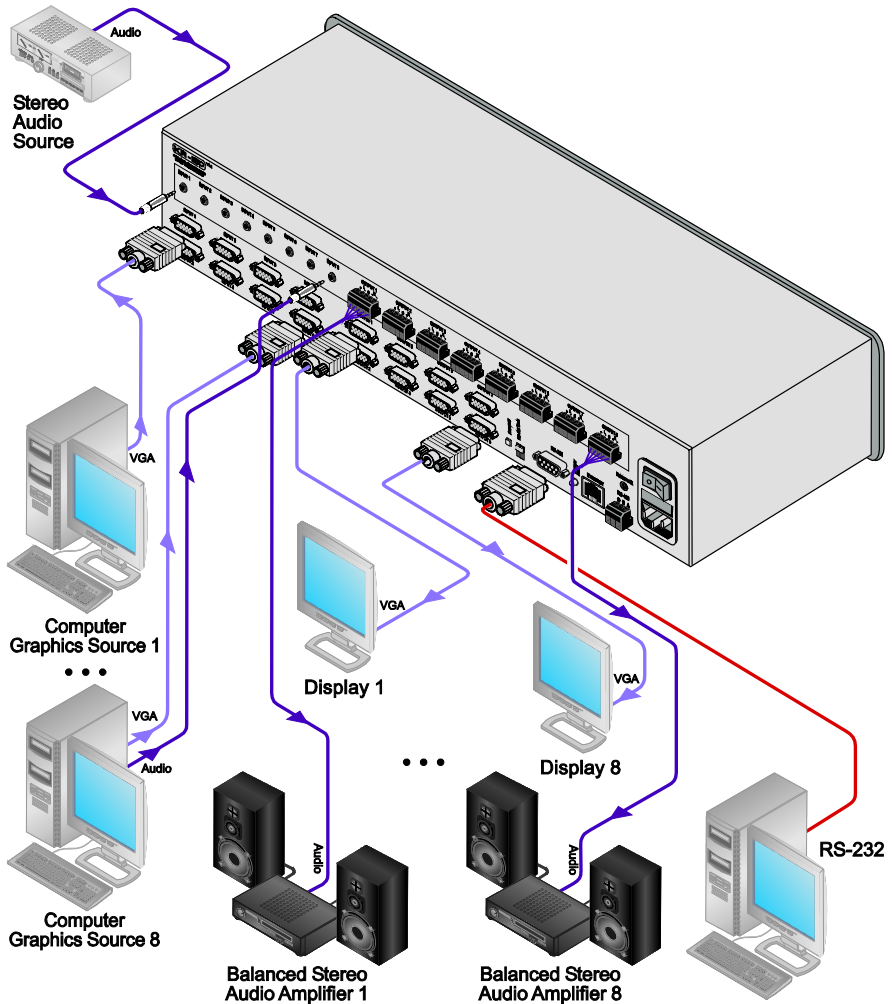

Figure 3: Connecting the VP-8x8AK 8x8 VGA / UXGA / Audio Matrix Switcher
To connect¹ the **VP-8x8AK**, as illustrated in the example in Figure 3, do the following²:
6. Connect the power cord (not shown in Figure 3)³.